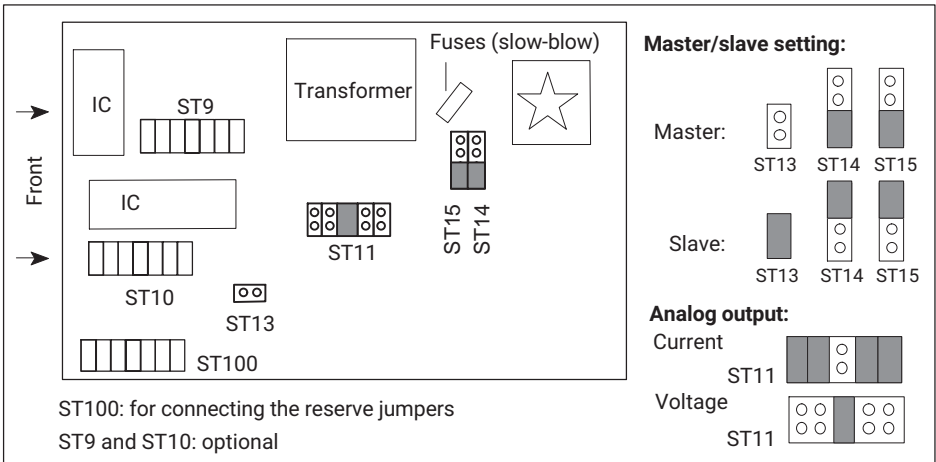

Fig. 4.1 Positions of the jumpers on the motherboard
- ▶ Change the setting you need using the jumpers as shown in Fig. 4.1.
The analog output (voltage or current) is selected by replugging jumpers ST11 (see Fig. 4.1). The selection of  $\pm 20$  mA or 4...20 mA is made on the user interface.
To synchronize multiple devices, one device is set as the master. All other devices must be set as slaves. The master and slave selections are made with jumpers ST13, ST14 and ST15 (see Fig. 4.1).